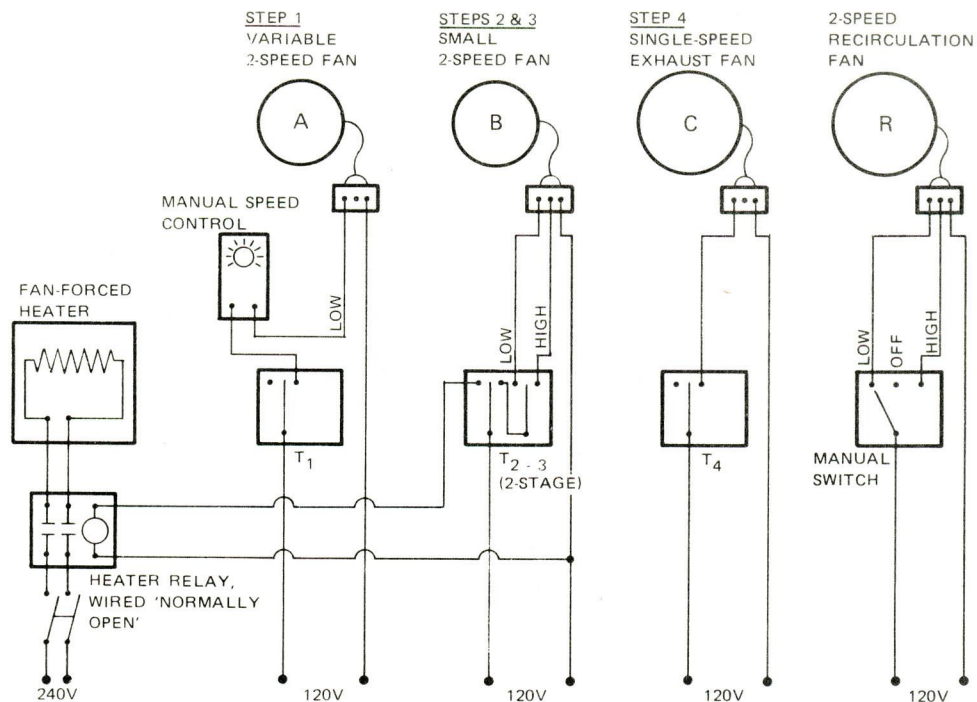

Figure 4 Fan and heater control each farrowing and weanling room
The exchange of air through each farrowing and weanling room is assisted by the recirculation fan R and duct ⑥, but the actual rate of exchange is controlled by exhaust fans A and B and C. Fan A in this case is a small 2-speed CANARMa fan, wired at 'slow' speed and further reduced by an inexpensive manual speed control (a heavy-duty light-dimmer). This is one way to get down to the low ventilation rate required in cold weather by the small groups of pigs in each farrowing or weanling room. Other manufacturers may have other ways to obtain the low step 1 rates required here. The manual speed control (Figure 4) is best used to preset the step 1 rate according to need in each room. For example, when the farrowing pens are only partly filled, heat energy can be saved by reducing the step 1 ventilation rate accordingly.
Another energy-saving idea (also shown in Figure 4) is to interlock the air heater ③ in the hallway so that it turns off when thermostat T2-3 starts fan B, and vice versa.
In warmer weather, the larger fan C starts to run (step 4). In effect we have a four-step ventilation system controlled with only two working thermostats and three exhaust fans. The T1 thermostat shown in Figure 4 serves only as a safety cut off in case of heating failure.